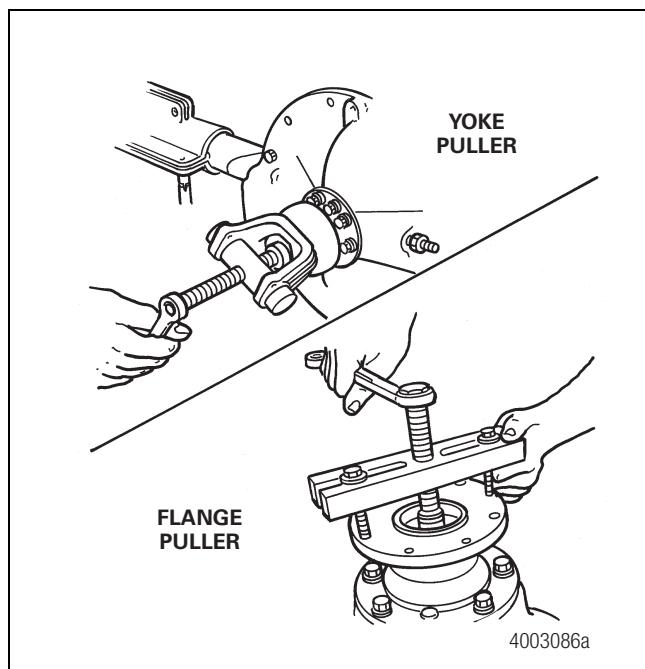

Figure 4.5
5. Use a yoke or flange puller to remove the yoke or flange. Do not use a hammer or mallet. Figure 4.5. Remove the pinion shaft oil seal. Discard the oil seal.